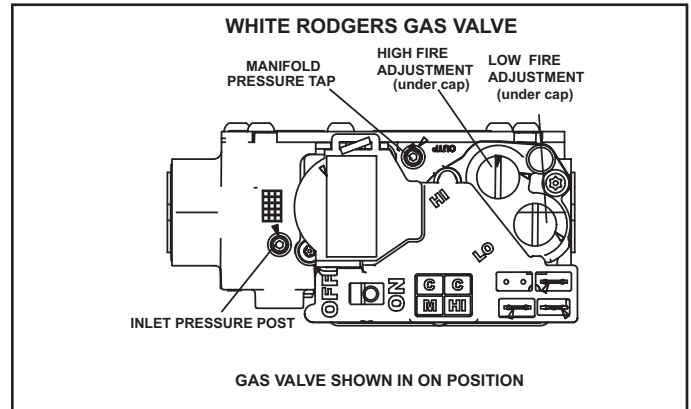
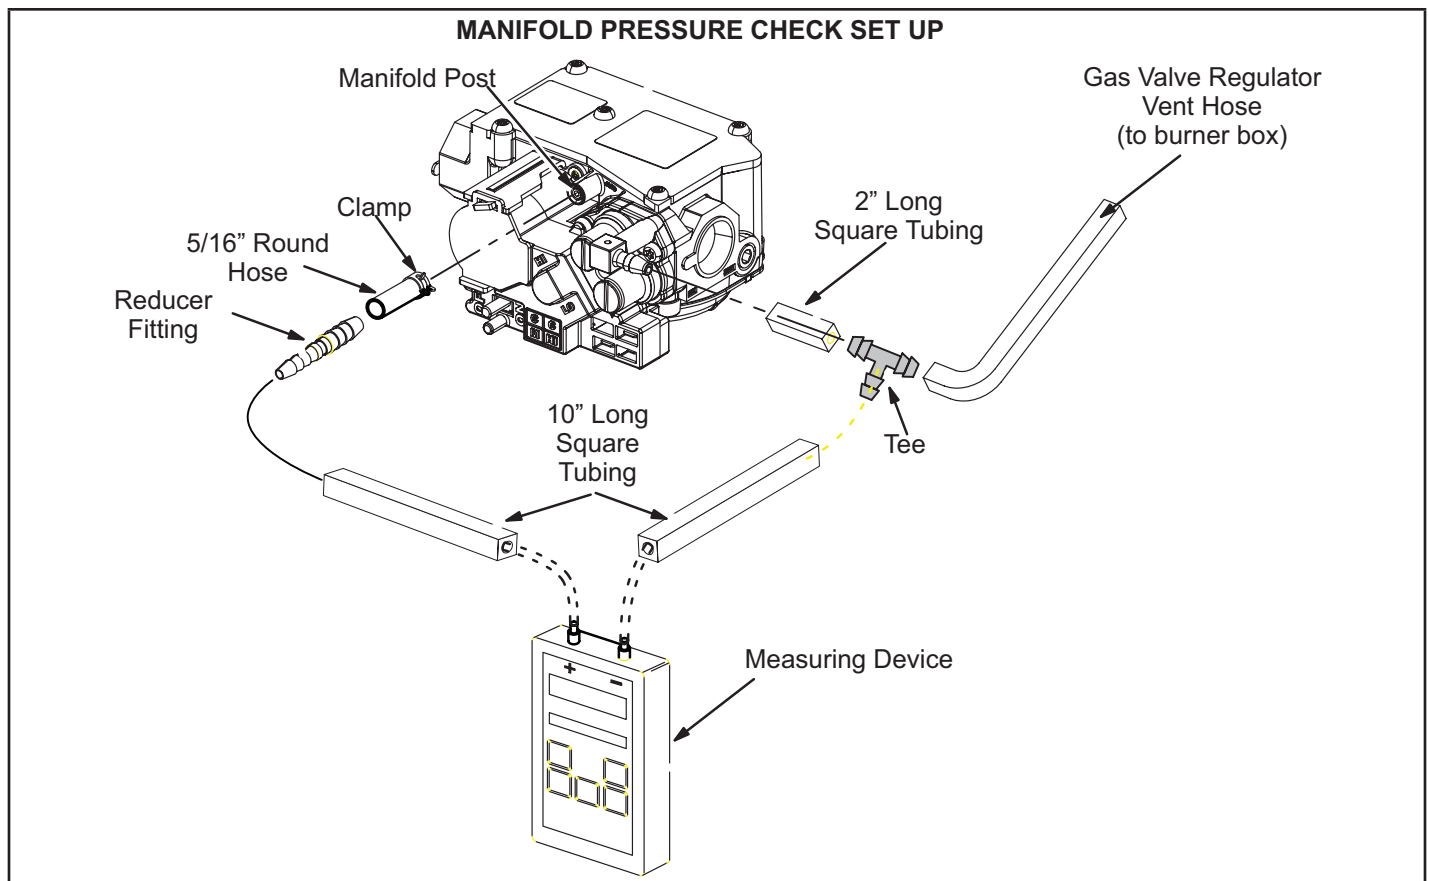

FIGURE 50
FIGURE 52
Gas Valve Operation (FIGURE 50)
- 6 - Move gas valve switch to **OFF**. See FIGURE 50.
- 8 - Move gas valve switch to **ON**. See FIGURE 50.
An inlet post located on the gas valve provides access to the supply pressure. See FIGURE 50. Back out the 3/32 hex screw one turn, connect a piece of 5/16 tubing and connect to a manometer to measure supply pressure. See TABLE 25 for supply line pressure.
A manifold pressure post located on the gas valve provides access to the manifold pressure. See FIGURE 50. Back out the 3/32 hex screw one turn. Follow the steps below and use FIGURE 52 as a reference. Gas manifold Kit 10L34 provides additional components if needed
- 7 - If necessary, make adjustments. FIGURE 50 shows location of high fire and low fire adjustment screws.